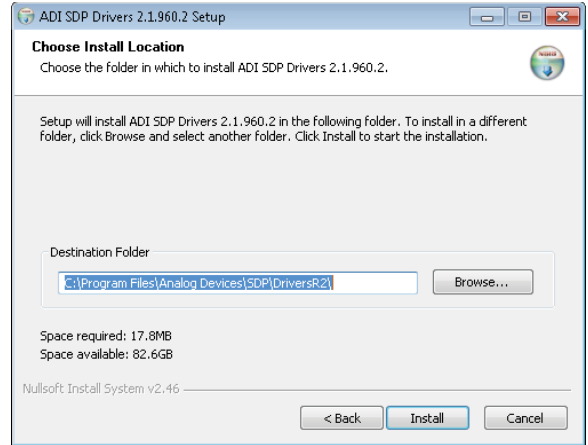

Figure 3. Choose Install Location
3. When the **Choose Install Location** window appears (see Figure 3), click **Install**. Clicking **Browse** allows the user to select a different destination folder, followed by clicking **Install**.